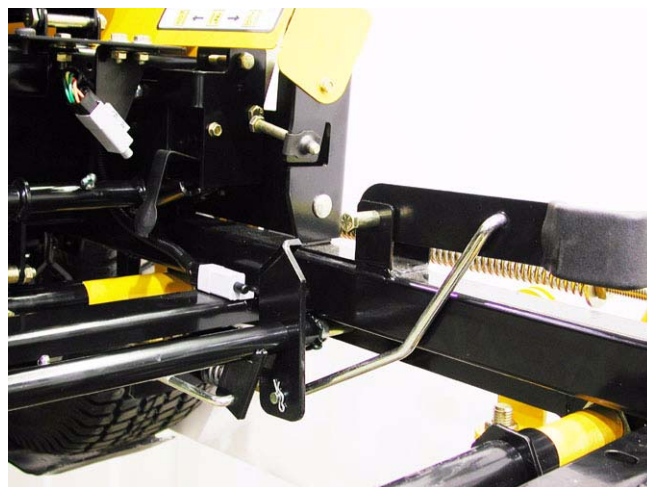

Figure 7.3
- 7.3. Lift the floor panel up using the grip opening at the top rear edge, slide it to the left, and remove it. See Figure 7.3.